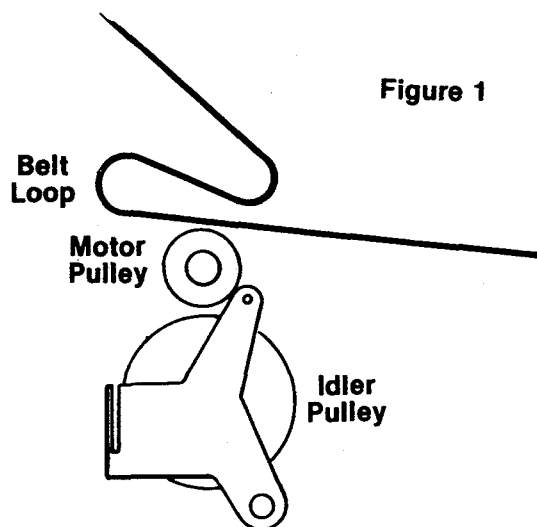

Figure 1
4. Form a loop with the excess belt at the bottom. Place this loop over the motor pulley (Figure 1).